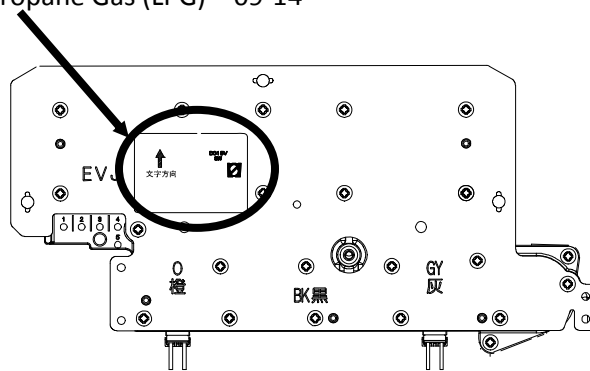

FIGURE 5
- 10) Insert the new manifold plate supplied with the conversion kit. The orifice size of the gas manifold plate should be marked as follows (check Figure 5).